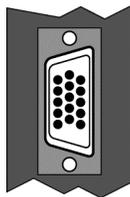

Figure 12: Monitor Video Connector
8. Connect the video cable from your monitor to the monitor video connector on your card (Figure 12).